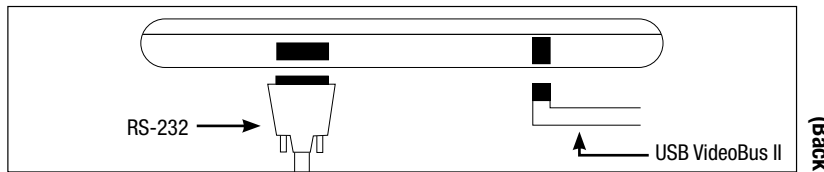
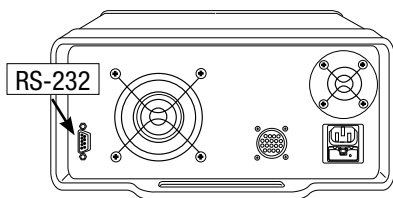

Figure 1
Figure 3
- Connect one end of the included RS-232 cable to the RS-232 port on the back of the Ca-Zoom PTZ system Camera Control Unit (CCU) (**Figure 3**) and the other end to the RS-232 port on your computer (**Figure 1**).
- Connect the USB A/V Capture Device to a USB port on your computer (**Figure 1**). Hardware wizard will then guide you through the hardware installation process. The hardware drivers for the USB A/V Capture Device are available on the iVIEW Remote Software CD-ROM.